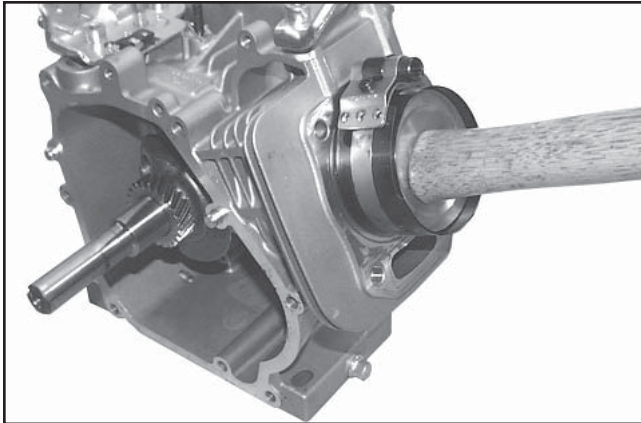

Figure 11-24. Installing Piston Using a Ring Compressor.
5. Ensure "∇" stamping on piston is facing down toward the base of the engine. Use a hammer handle or rounded wood dowel and gently tap the piston into the cylinder as shown in Figure 11-24. Be careful that the oil ring rails do not spring free between the bottom of the ring compressor and the top of the cylinder.